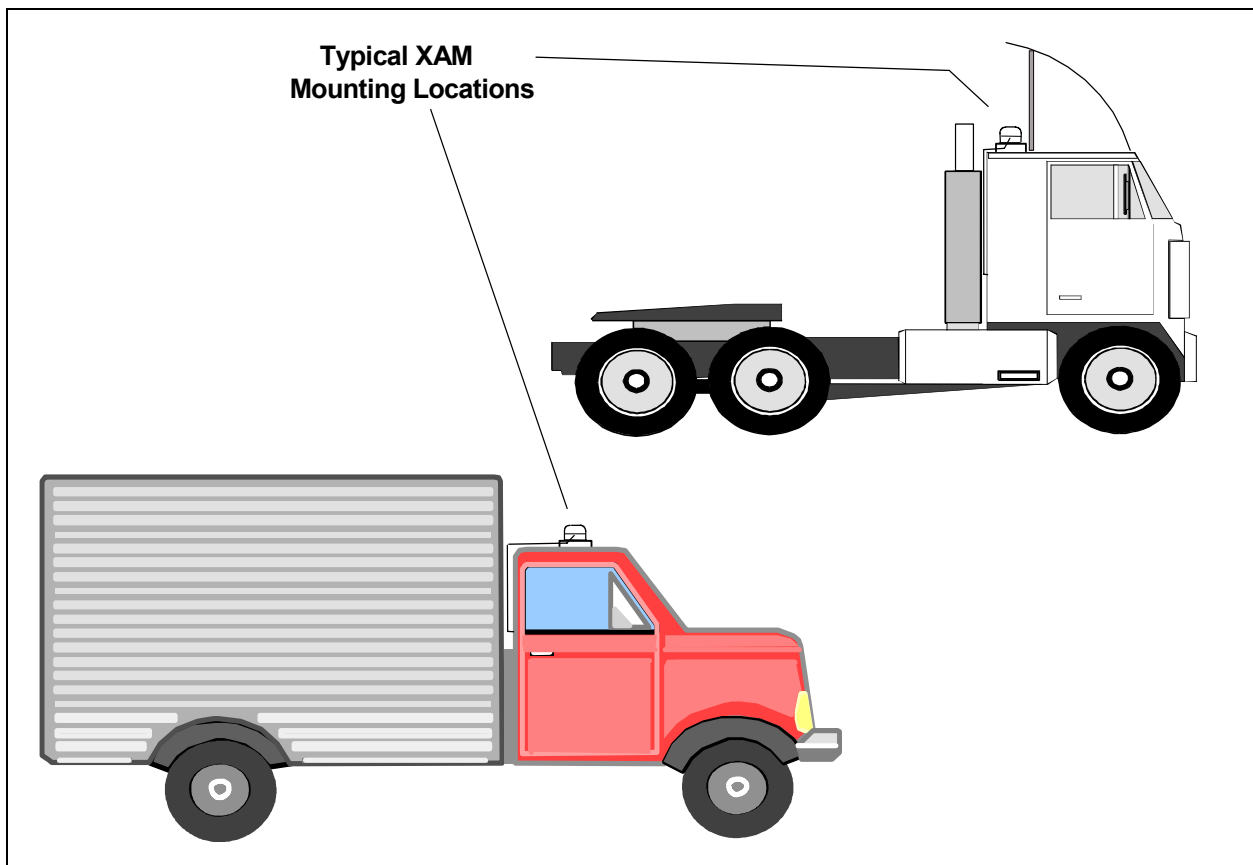

Figure 1. Typical XAM Mounting Location on Straight Truck and Tractor
1. The XAM must be mounted above any large metal surfaces. The XAM Mounting Bracket should be installed directly to the cab and positioned away from other Antennas on the cab. If the XAM has ORBCOMM communications see special mounting instructions in the ORBCOMM Antenna Installation Guide. Optional mounting brackets may be purchased from XATA. Figure 1 shows two typical mounting locations.